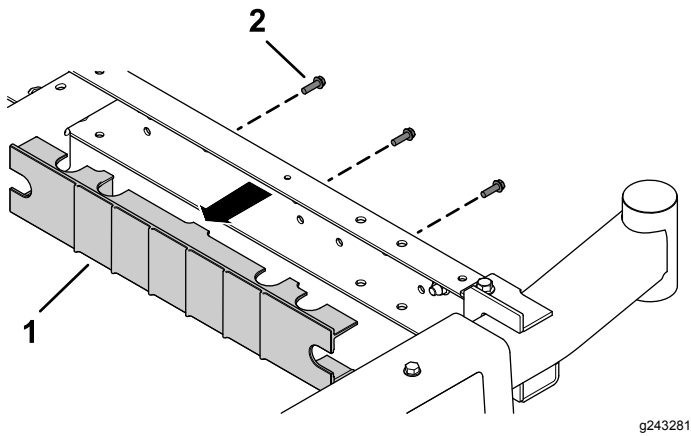

Figure 4
- B. Remove the 2 rail guards and 6 hex-washer head screws (1/4 x 13/16 inch) from the platform (Figure 4).
- A. Install the previously removed 2 rail guards using the 6 hex-washer head screws (1/4 x 13/16 inch) as shown in Figure 4.